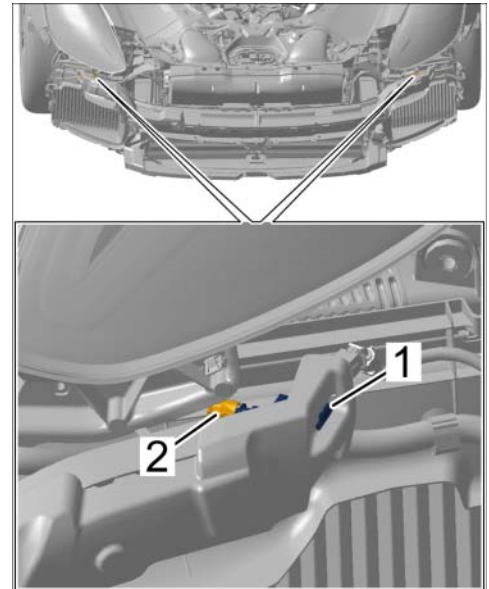

Figure 34
4.2.1 Release and disconnect electric plug connections on pedestrian protection actuator (⇒ *Figure 34*).